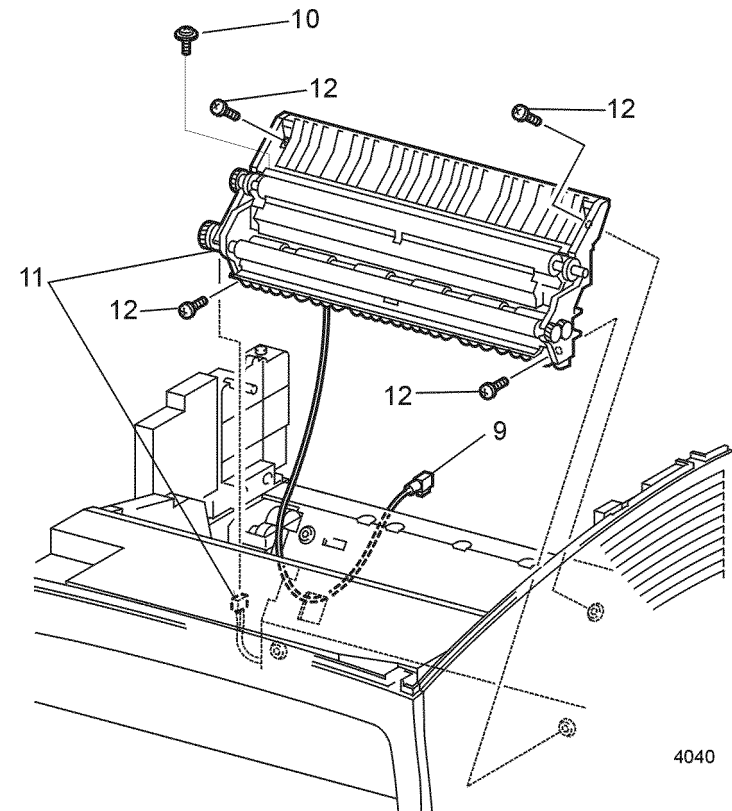

Figure 1 Paper Transport Assembly
12. Disconnect P/J222 from the bottom of the Registration Clutch (Figure 1).
13. Remove the four screws that secure the Paper Transport Assembly to the printer (Figure 1).